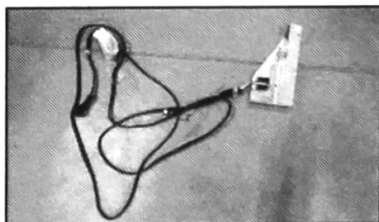

FIGURE 16
18. Following the removal of the testing connector and both Line and Neutral, the switch plate assembly will be free from the original HV box assembly. See Figure 16.